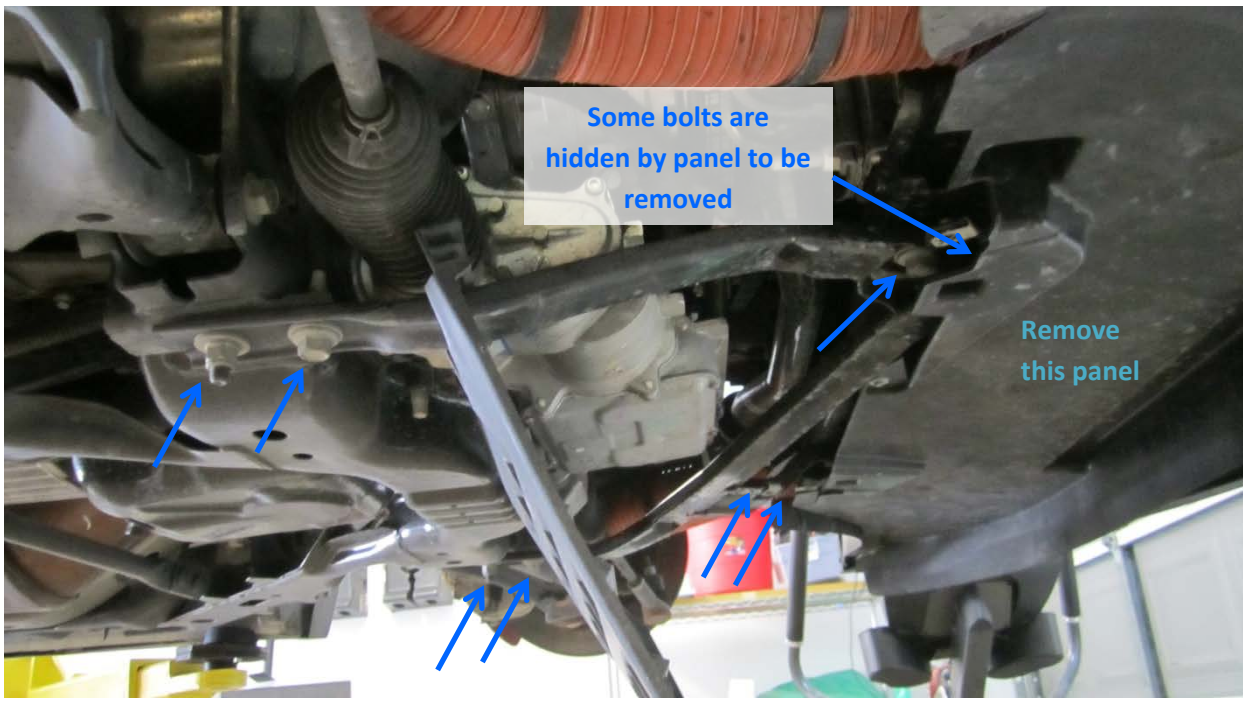

Figure 4
- a. The 7mm hex head screws holding the plastic shield/splitter which attaches to the chin spoiler (identified in Figure 4)
- b. The 6 bolts and 2 nuts (all 15mm) shown with blue arrows in Figure 4.